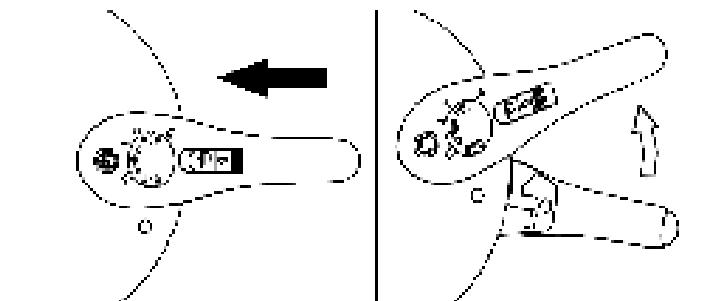

Fig.9
1. Natural cold. When heating time is up, turn off the fire and leave it for a while waiting for the pressure reduced. Take off the lid when the safely open-preventing valve fell down. The opening procedure is contrary to the closing. Push the opening button back and make it on estate of opening when you open the lid. Contrarotate upper handle to align the mark "O" on the lid to and the mark "O" on the lower handle to open the lid. (Fig.9)